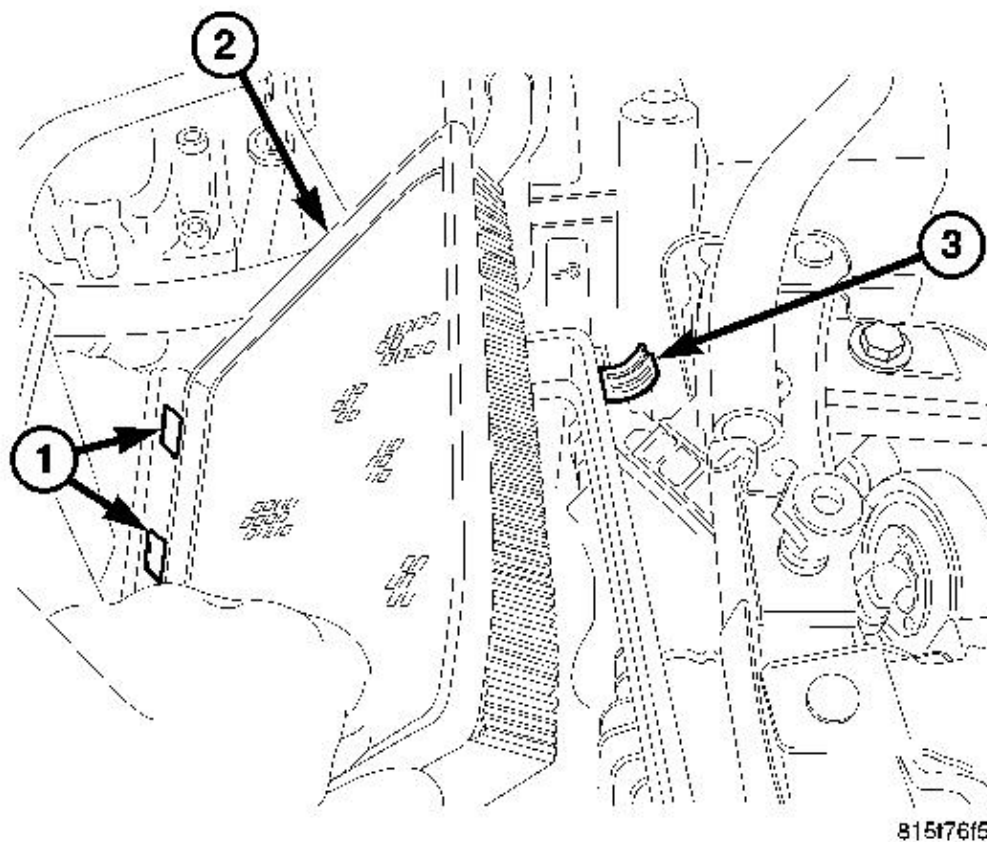

Fig. 52: Air Cleaner Element, Locating Tabs & Spring Clip
5. Remove air cleaner element (2) from housing. See **Fig. 52**.